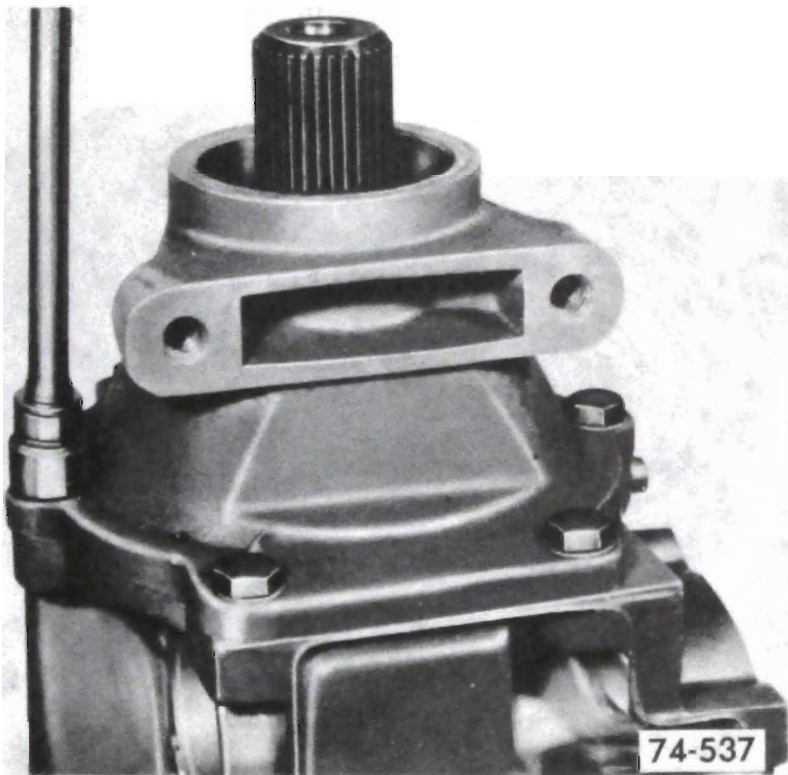

Figure 76-82
2. Remove extension housing to case attaching bolts. See Figure 76-82.